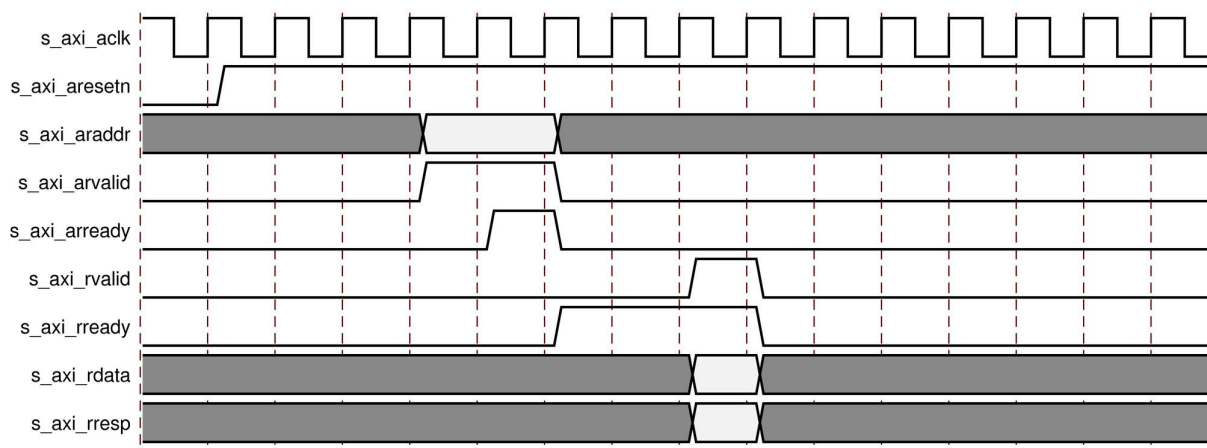

Figure C-1: AXI4-Lite Interface Read Timing Diagram
Read from a register that does not have all 0s as a default to verify that the interface is functional. See Figure C-1 for a read timing diagram.
**Note:** Signals are compliant with AXI4-Lite protocol. The timing shown in Figure C-1 is provided as an example, and delays are not guaranteed to be the same as shown in the figure.